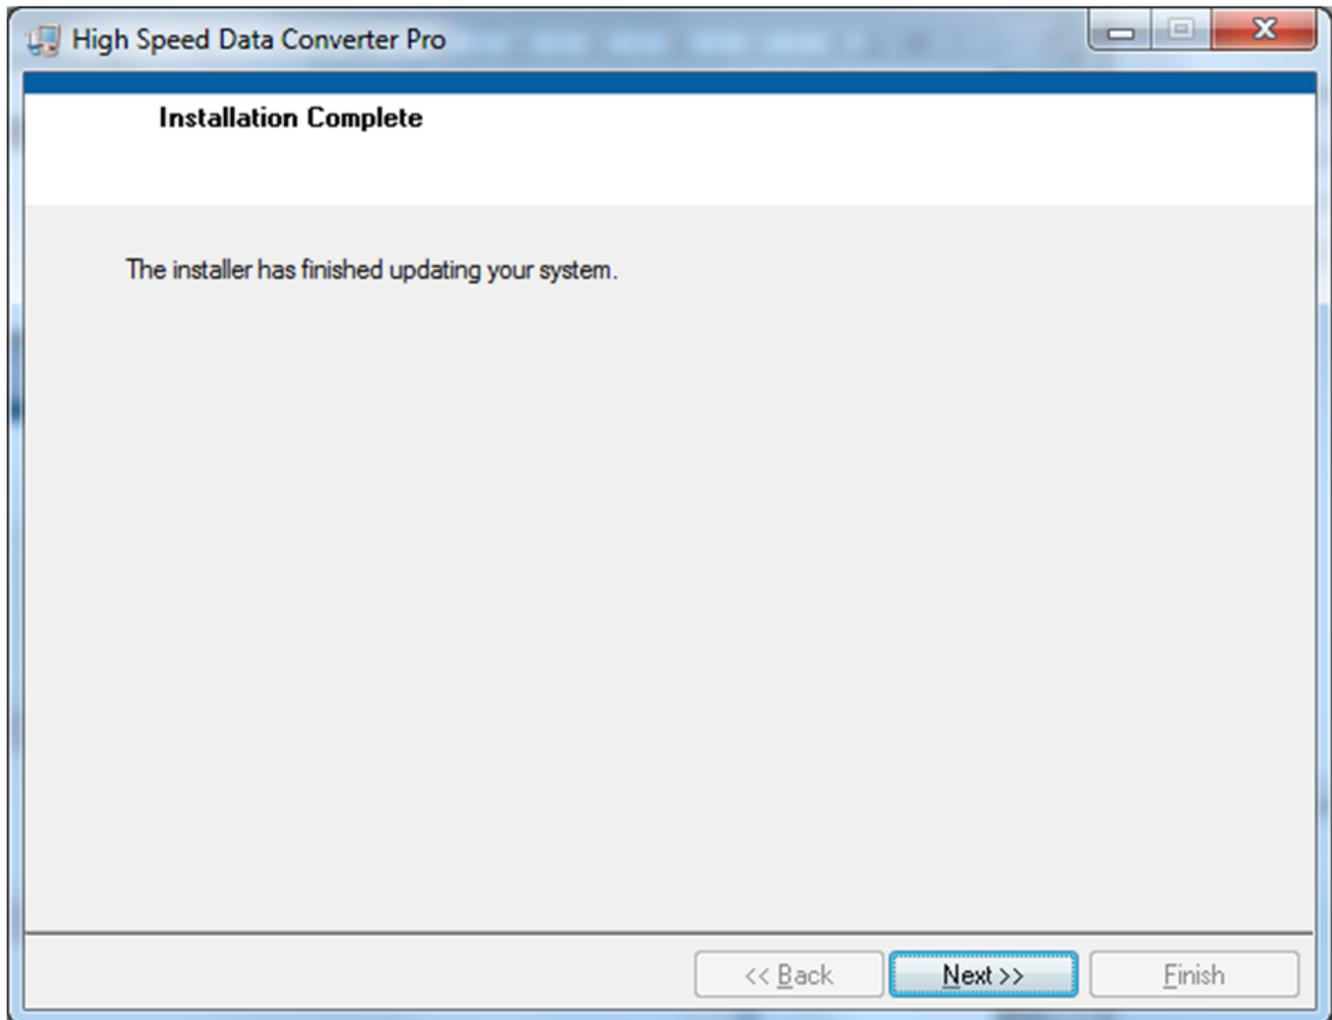

Figure 48. HSDCPro Install (Installation Complete)
- The window shown in Figure 48 appears indicating *Installation Complete*. Press the *Next* button.